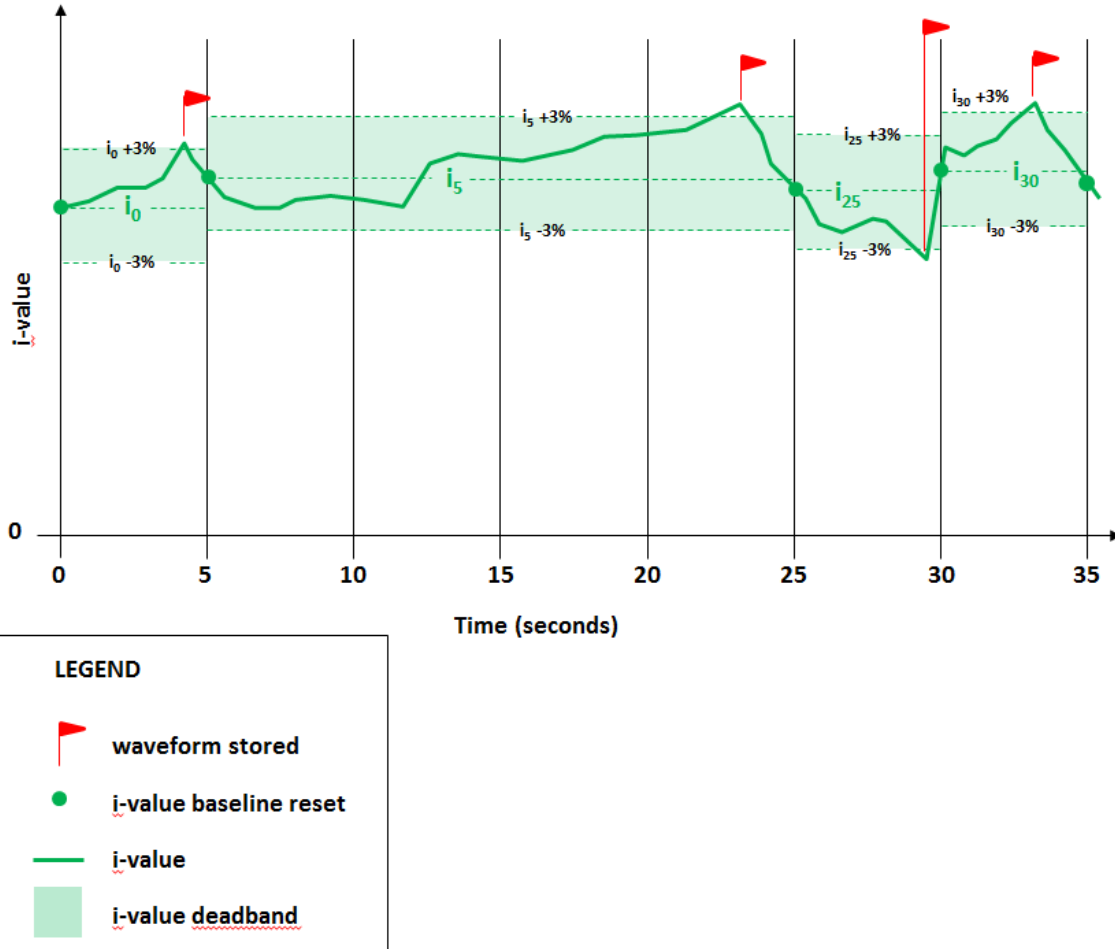

Figure 4: Example showing changing i-value and waveform storage triggers
2. When a waveform sample is initially stored upon powering up or resetting the system, its characteristic static parameters become the baseline values, and the *i-factor* is calculated. During any given 5 second interval thereafter, if any of the above static parameters change by more than 3% of the DANGER setpoint⁴, a new waveform and baseline is stored. If the change is less than 3%, it is assumed that the baseline waveform adequately characterizes the current vibration and nothing is stored. Thus, the vibration is continuously sampled and compared to a relevant baseline, storing waveforms when the change detection warrants. This is depicted in Figure 4.